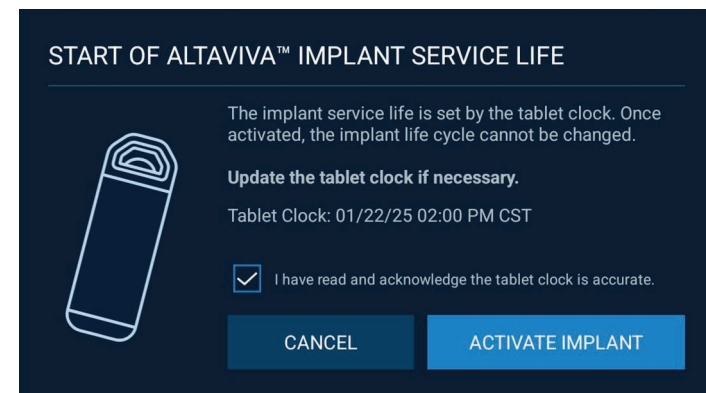

Figure 12. Start of Altaviva Implant Service Life notification
2. When stimulation is turned on for the first time for a neurostimulator, you will see a notification asking you to confirm that the correct time is set on the clinician tablet and informing you that turning on stimulation will start the implant's service life (Figure 12).
4. Tap the acknowledge checkbox. Then tap **ACTIVATE IMPLANT** to continue (Figure 12).